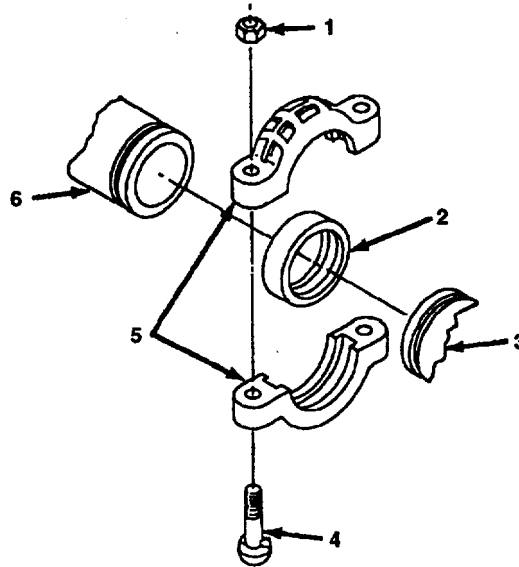

Figure 2-12. Grooved Pipe Coupling.
2.3.2 Grooved Pipe Coupling Removal and Installation. Remove and install grooved pipe coupling (Figure 2-12) as follows:
- a. Disassemble grooved pipe coupling by removing two nuts (Figure 2-12, 1), bolts (4), coupling halves (5), and gasket (2).
- b. Check gasket (2) for damage. If gasket (2) is damaged, replace it.
- a. Apply thin coat of non-petroleum silicone lubricant (item 5, appendix E) to gasket lips and outside of gasket (2).